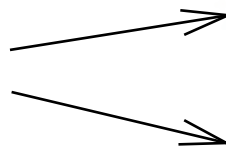

Figure C.1
Attach the second Rim Joist to the assembly, again using (3) 3/8"-16 x 1" socket head screws and (3) 3/8"-16 flange nuts at each joint. Once all joists are connected, tighten bolts to a recommended torque of 20 foot-pounds. When tightening the corners, ensure the edges are properly aligned [see Figures C.1 and C.2].